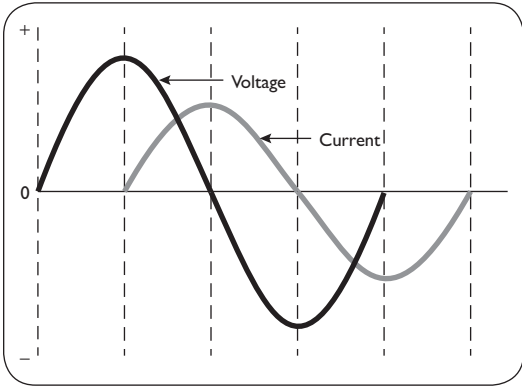

Figure 1-2 Reactive Circuit
Many facilities have a lagging power factor of around 0.87. When the voltage changes, the current flowing in the system also changes, and the electrical system reacts to this change by creating a kind of resistance called *reactance* (X). Figure 1-2 shows the voltage and current peaks out of phase with each other. The voltage lags the current peak.